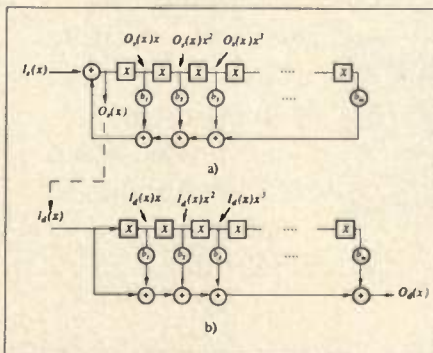

Figure 1. a) basic scrambler, b) basic descrambler.
The basic scrambler/descrambler consists of a linear sequential filter with feedback/feed-forward paths. Figure 1 depicts their different elements. Constants in that figure are binary, that means, the tap is present when b_k takes a value of "1". These constants are chosen such that the scrambler increases the period of the signal in the desired way. It has been shown (1) that the period of the output signal, when the input signal is of period s , is the least common multiple (LCM) of s and $2^m - 1$; m being the number of delay elements. This is always true except for one initial state of the scrambler where the signal period remains unchanged. Monitoring logic allows us to avoid this last case.
The self-synchronizing properties of these devices are easily determined by inspecting their block diagrams in Figure 1. The scrambler is said to be synchronized with the